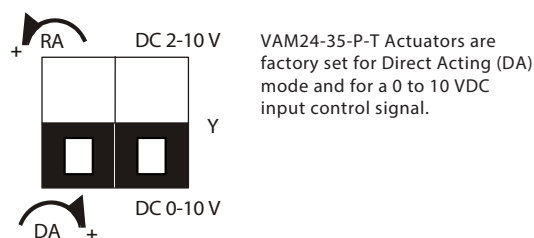

Figure 12: VAM24-35-P-T Factory Switch Setting
For Reverse Acting (RA) operation, a minimum control signal drives the actuator to the full CW position and a maximum signal drives the actuator to the full CCW position. To change the factory settings, remove the actuator cover and adjust the switches on the circuit board as shown in Figure 12.